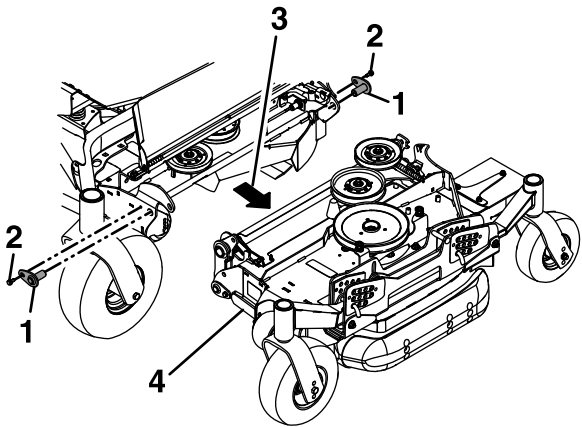

Figure 39
23. Push the left wing deck back to the center deck. Align and install the upper pivot deck pins in the front and rear of the deck and secure with the bolts that were removed previously (reference Figure 39).